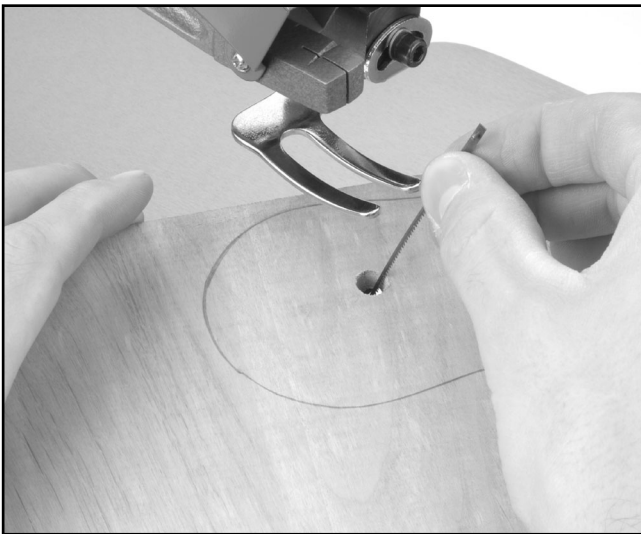

Figure 14. Installing the blade for an inside cut.
4. Thread the blade through the hole in the workpiece as shown in **Figure 14**.